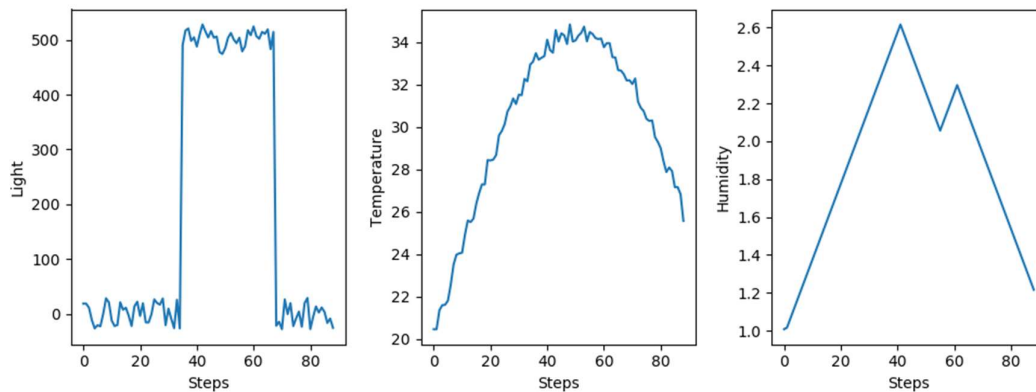

Figure 13 - Graphical User Interface to show the produced measurements in real-time.
- -c 1 → Enable the graphical user interface to show the measurements provided by the MsgCreator simulator. If the graphical user interface is not necessary, please use the value 0. Figure 13 depicts the interface for showing the measurements in real time for the presented scenario;